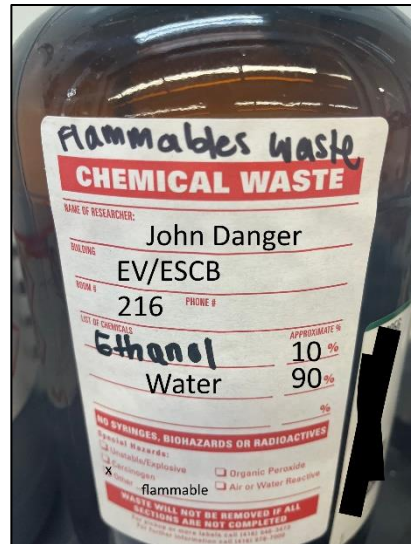

Figure 3
14. Label each chemical with the approximate percentages **before** transporting the 'full' waste containers to Chemstores for disposal (Figure 3).